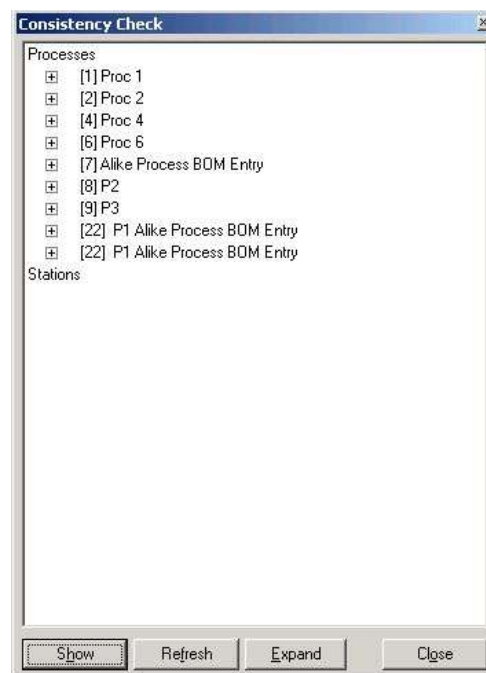

Figure 223: Planning Errors are Immediately Displayed in the Dialog
- 3) After the calculation the Consistency Check dialog opens; it shows you possible errors which you can then correct. *Please refer to the Figure 223.*